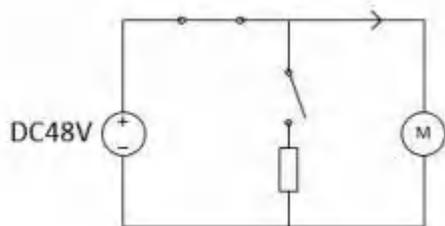
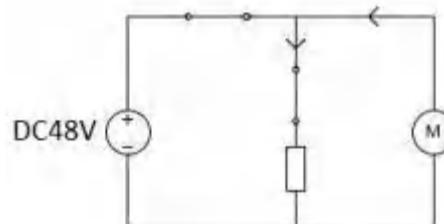

Figure 1-1 Resistor off ($V_{DC} \leq 52V$)
Figure 1-2 Resistor on ($V_{DC} \geq 55V$)
(1) The power discharge module is a dedicated component for handling the regenerative braking kinetic energy of robot joint modules operating under high-speed and heavy-load conditions, thereby preventing the bus voltage overvoltage alarm and shutdown caused by the surge in power supply voltage due to regenerative energy feedback.
(2) When the joint module is powered by a 48V switching power supply, the operating circuit with the added power discharge module can be simplified and equivalent to the diagrams shown in Figure 1-1 and Figure 1-2.
(3) The discharge resistor functions to dissipate excess energy through resistance when the circuit loop is in the kinetic energy recovery process, thus avoiding the power supply voltage surge induced by regenerative energy feedback. However, the discharge resistor cannot be connected to the circuit for an extended period; otherwise, it will continuously generate excessive heat, leading to component damage, circuit malfunctions and unnecessary power consumption. Therefore, it is recommended to design a
reliable control logic for the discharge resistor connection. When the joint module is powered by a 48V switching power supply, the control logic for the discharge resistor connection of the power discharge module is as follows: the resistor is disconnected when $V_{DC} \leq 52V$ (see Figure 1-1), and the power supply only outputs electric energy to the motor at this time; the resistor is connected when $V_{DC} \geq 55V$ (see Figure 1-2), and the excess electric energy is dissipated through the resistor at this time.